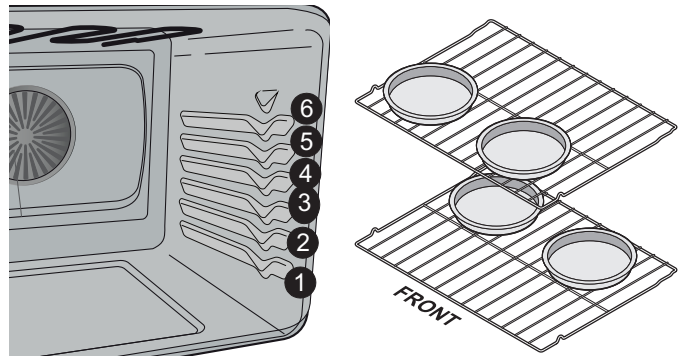

Figure 13: Rack positions and pan placement
- For best results when baking layer cakes using two oven racks, place racks in positions 1 flat and 4 glide and place pans as shown in Figure 13.